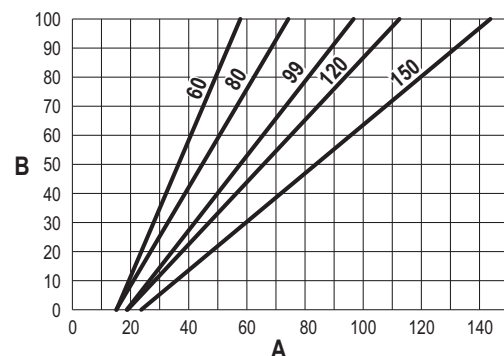

fig. 75
- Press the **contextual buttons 1 and 2** to increase or decrease the heating capacity (minimum = 00 - maximum = 100). See the diagram "Heating Capacity Adjustment" (fig. 75).